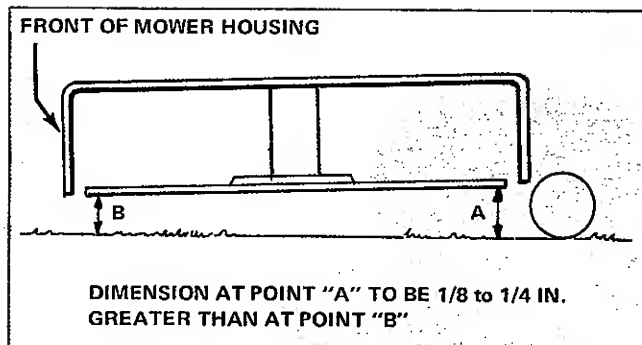

Figure 3-5. Cutting Height Measurement
3. Measure distance from blade tips to ground. Dimension at point "A" must be level to 1/8" higher or 1/8" lower than at point "B" (Figure 3-5).